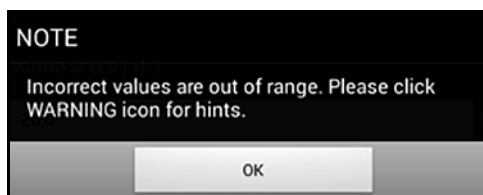

Figure 133: Out of Limits Message
7. There is an acceptable range for each of the parameters entered in this menu. If you enter a value outside of these limits a message similar to *Figure 133* below is displayed.